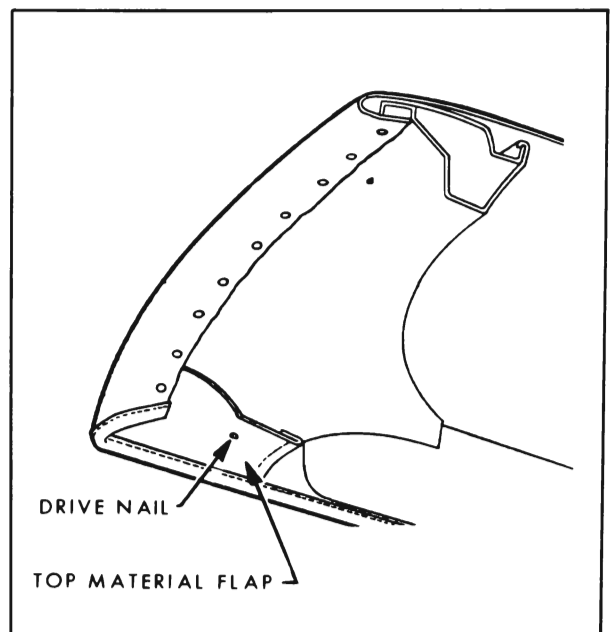

Figure 7-22—Top Material at Front Roof Rail
4. Loosen front end of each side roof rail front weatherstrip sufficiently to detach top material flaps which are nailed and cemented to rails (see Figure 7-22).